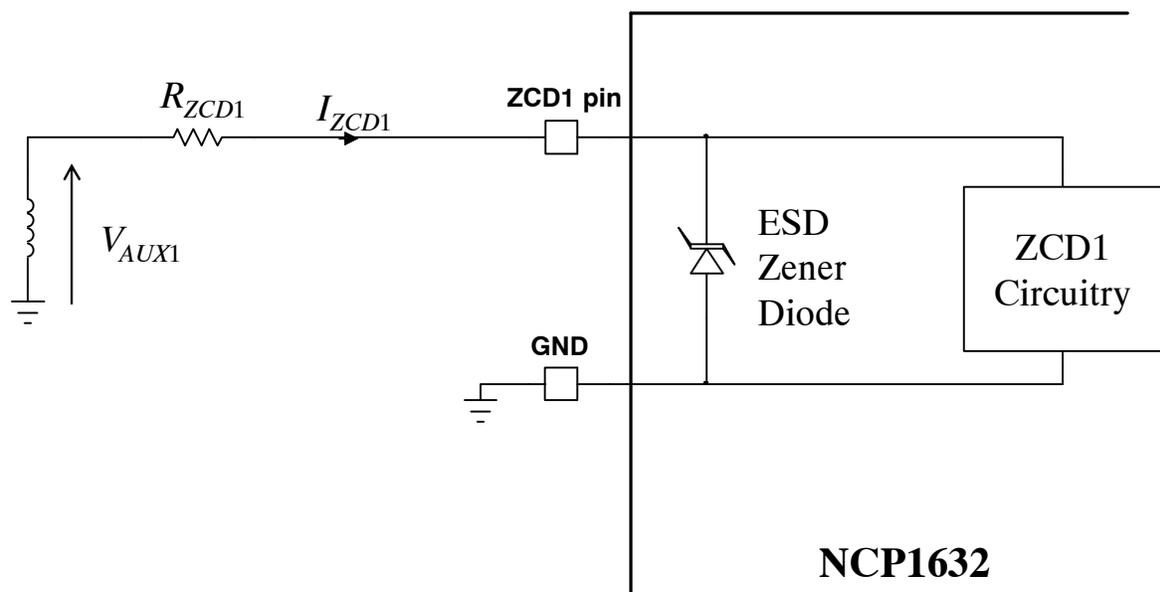

Figure 2. Limit the ZCD1 pin current (I_{ZCD1}) between -5 mA and 5 mA (the same is valid for the ZCD2 pin)
1. These maximum ratings (-0.3 V / 9.0 V) guarantee that the internal ESD Zener diode is not turned on. More positive and negative voltages can be applied to the ZCD1 pin if the ESD Zener diode current is limited to 5 mA maximum. Typically, as detailed in the Zero Current Detection section, an external resistor is to be placed between the ZCD1 pin and its driving voltage to limit the ZCD1 source and sink currents to 5 mA or less. See Figure 2 and application note AND9654 for more details. The same is valid for the ZCD2 pin.